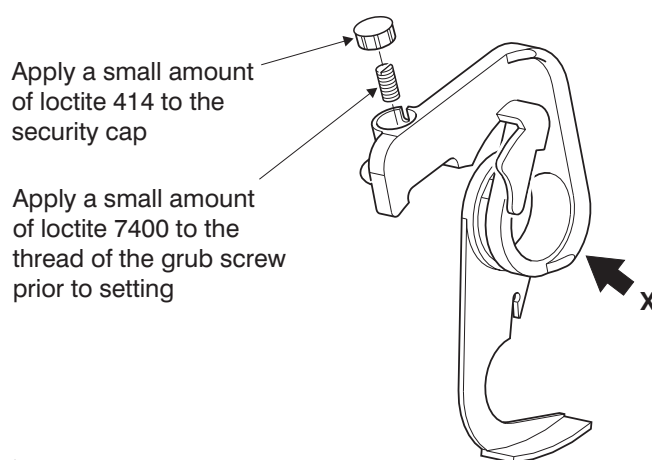

Figure A.3 Size Sensor Flag: general details
3. Using the fingers, alternately apply and release, several times, a gentle pressure at point **X**, see figure A.3, on the size sensor flag, and ensure that the pump does **not** toggle between 10 and 20 ml. Fine tuning of the adjustment screw may be necessary to ensure that toggling does **not** occur.